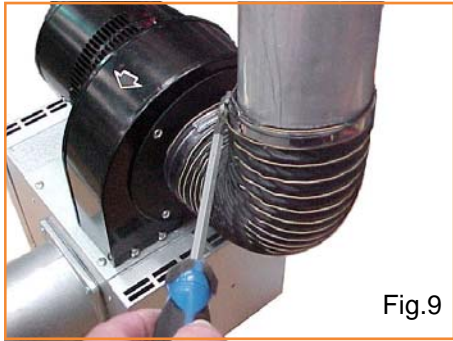

Fig.9
c) Fit the second hose clip to the opposite end of the flexible coupler. Slide the flexible coupler over the pre-installed fresh air duct and tighten the hose clip as shown in fig. 9.